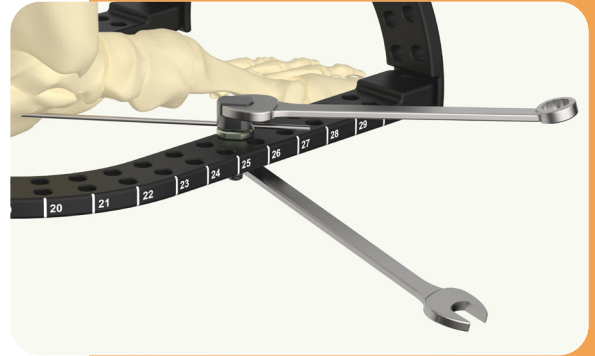

Fig 8 - Fully Tighten Nut
- 8 While using one box end of the 10mm Hex Bolt Wrench to maintain the position of the Clamp, use another 10mm wrench to tighten the nut (Fig. 8). Fully tighten the nut opposite of where the tensioner will be applied.